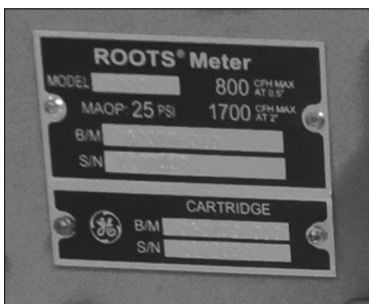

Figure 9.50 - Change cartridge nameplate
9. Change the cartridge nameplate since cartridge is replaced. Please use a 3/32" Allen wrench to change out the nameplate. Refer to Figure 9.50. **Note:** On new meters, the cartridge badge is attached to the "ROOTS Meter" badge. The badge is scored so the "CARTRIDGE" portion of the badge will break off when bent.